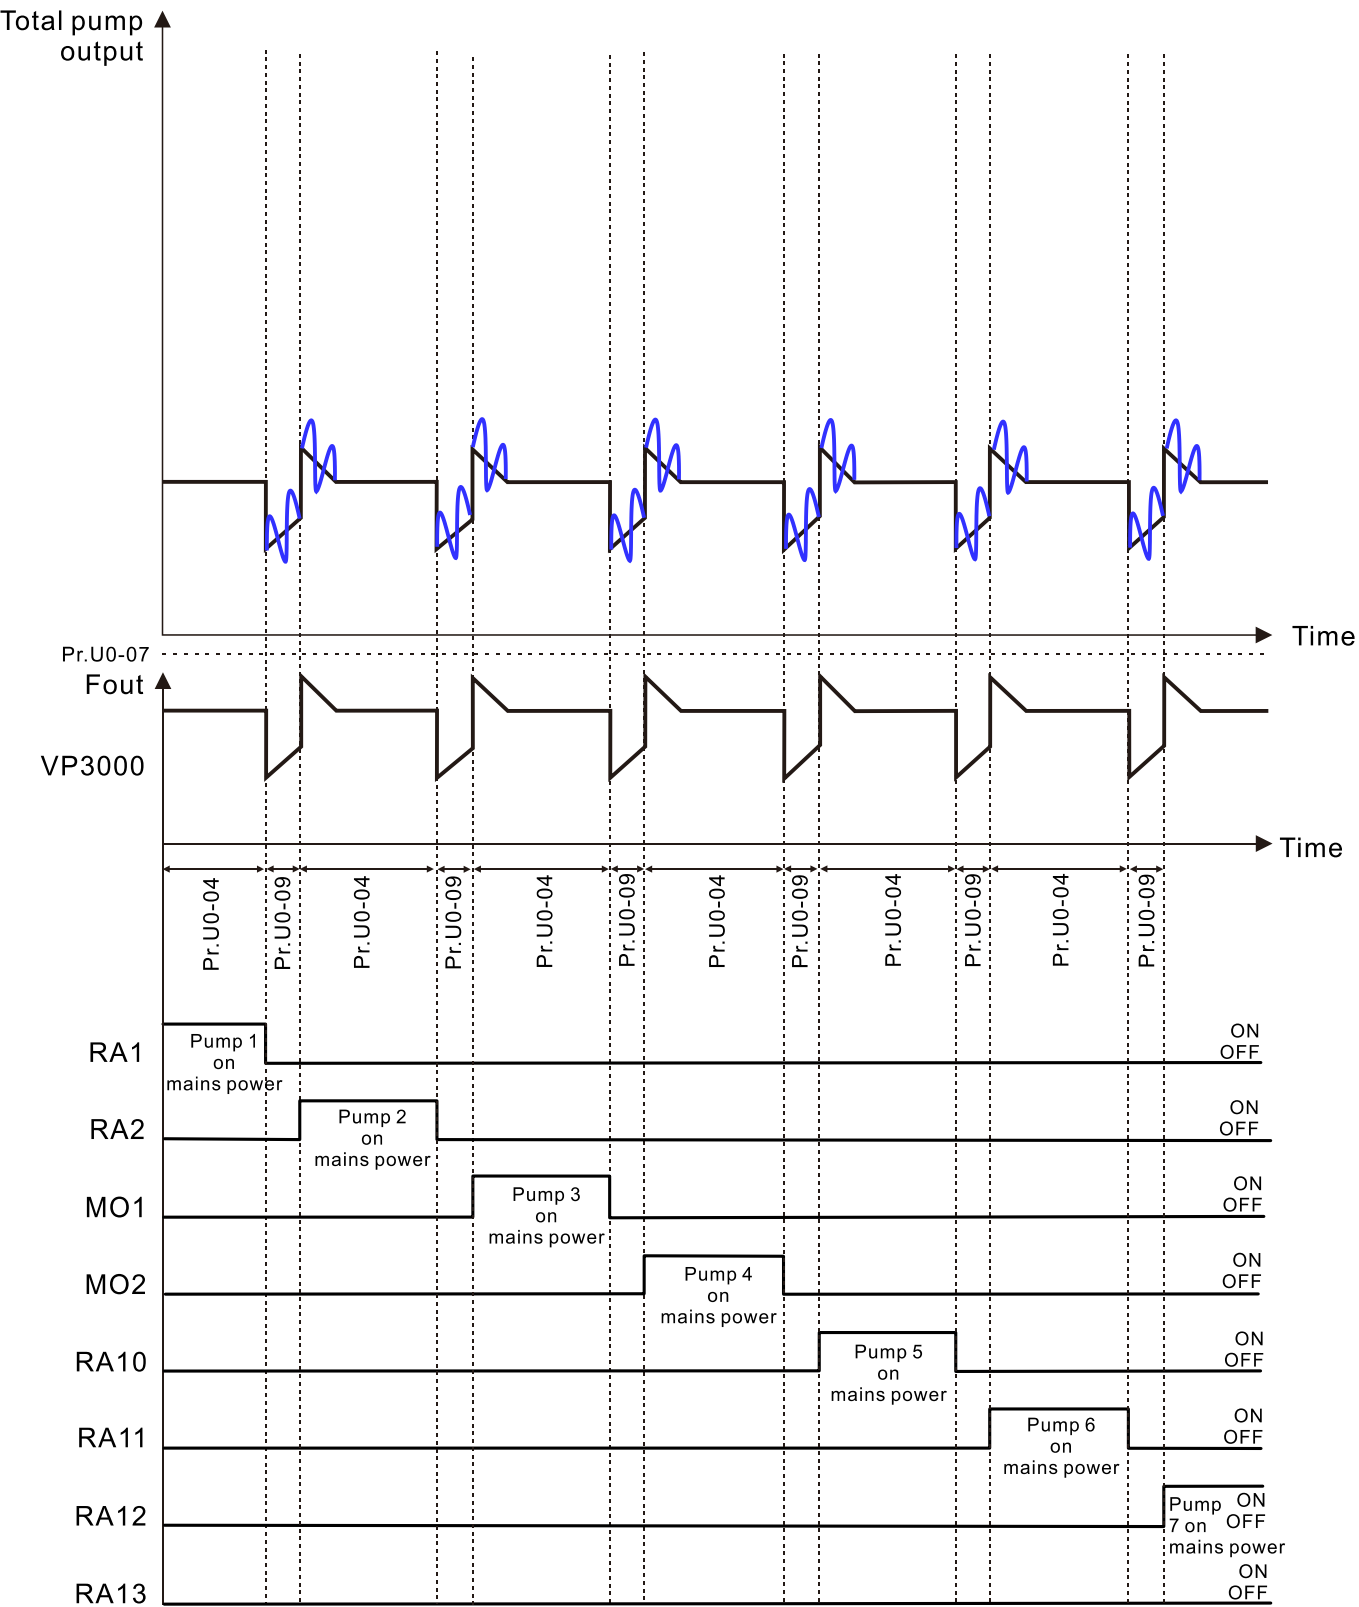

Figure 18 Situation 1 Sequence
- 📖 The system supports up to 8 sets of pumps under QTY control + Time circulation mode. When the system water demand only needs two pumps to balance the pressure, and the AC motor drive runs one set of master pumps and the mains power supplies to one auxiliary pump, turn off the first auxiliary pump (Pump 1) first according to Pr.U0-04 (Circulation Time) for the time of Pr.U0-09 (AUX Pump Active Delay Time), and then start another auxiliary pump (Pump 2). After the next counting cycle, turn off the current auxiliary pump and the next auxiliary pump (Pump 3, refer to Figure 18) will be started after the time of Pr.U0-09 (AUX Pump Active Delay Time), and so on.